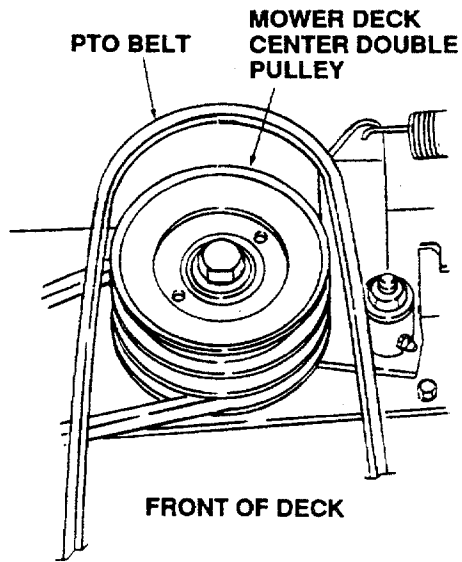

Figure 36
- Remove the rearward end of the PTO belt from the upper pulley of the deck center double-pulley. (Refer to Figure 36.)